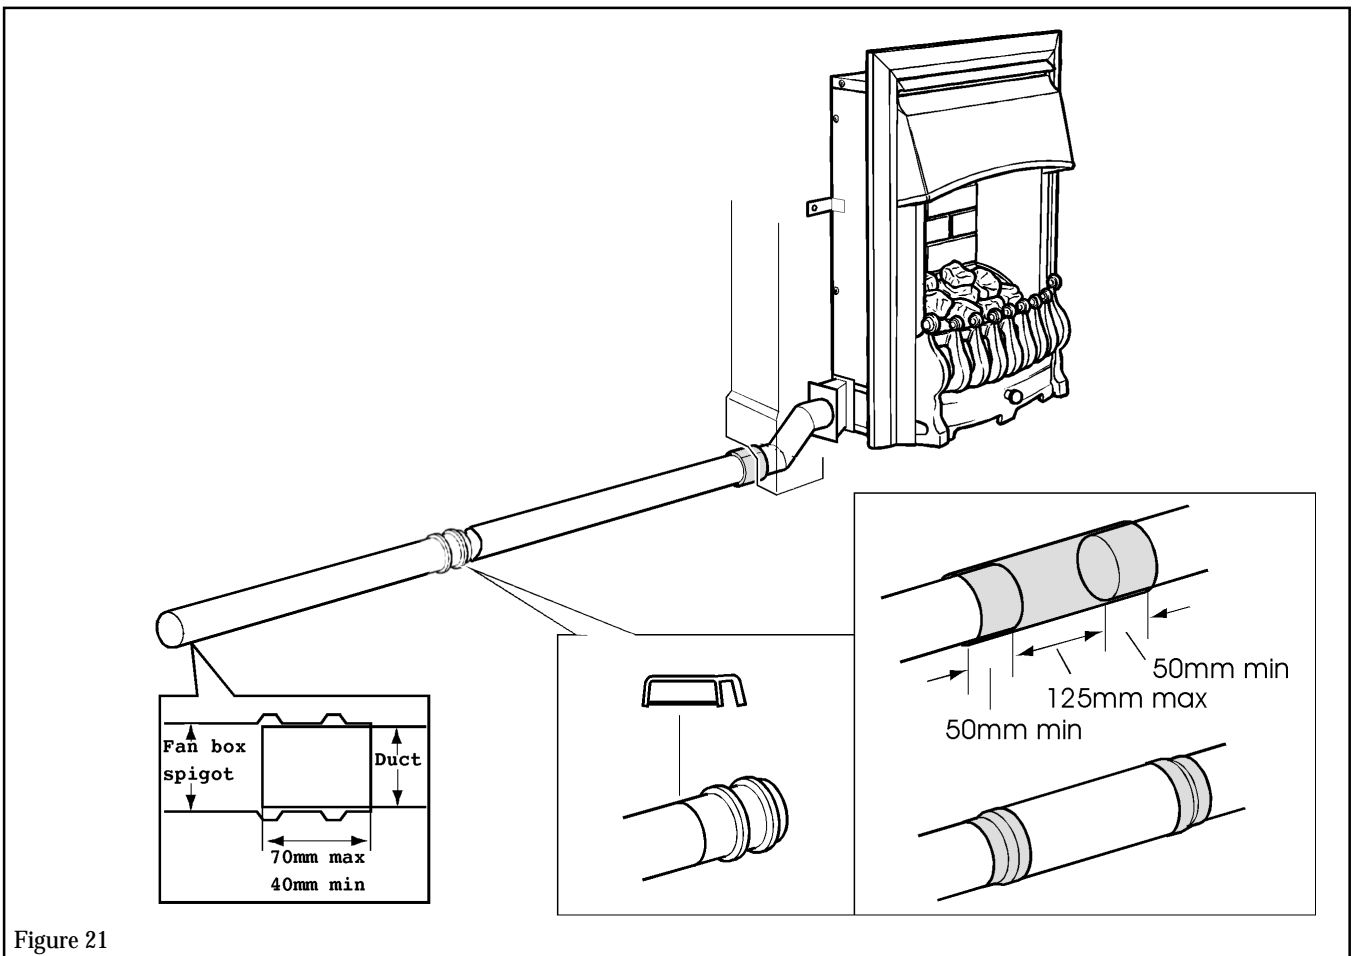

Figure 21
A bridging tube is supplied to aid manipulation of the ducts while installing. The swaged end of one duct (the end with the seal) can be cut to allow a gap of up to 125mm to be bridged (see figure 21).
8.9 Slide the bridging tube so that it overlaps each duct by a minimum of 50mm. Seal each end of the bridging tube to the ducts with the tape supplied (see figure 21) .